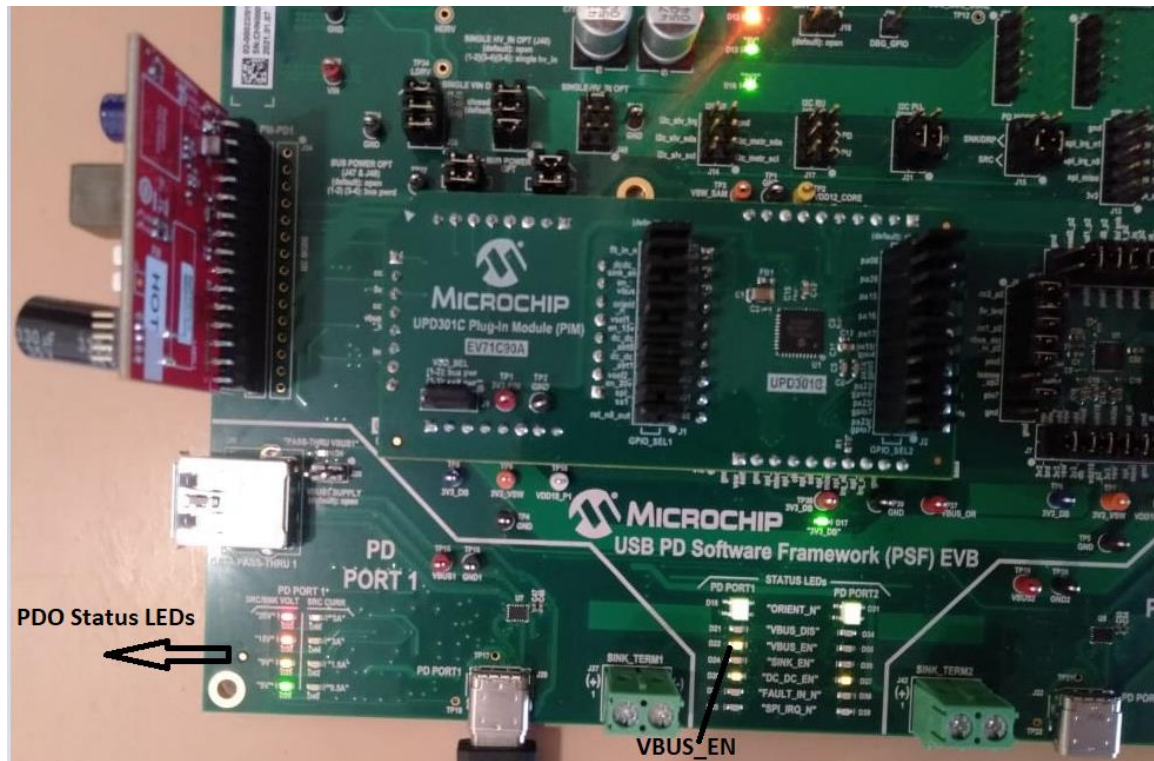

Figure 7.2 VBUS_EN and PDO Status LEDs after device attach
- In our case, UPD301C Basic Sink AE requested 20V. The status of VBUS_EN and PDO status LEDs is shown in Figure 7.2.